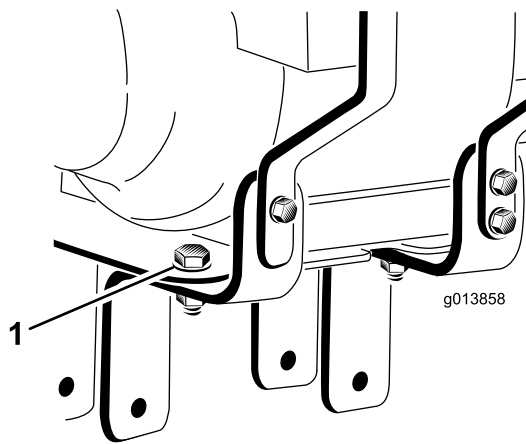

Figure 3
16. Loosen, but do not remove, the (2) bolts and nuts securing the engine mount brackets to the engine mounting plate (Figure 3).